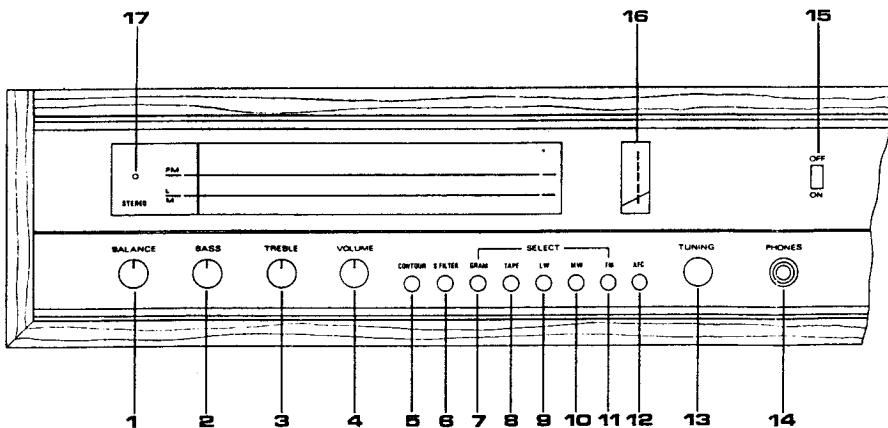

FIG. 4
The layout of the control panel is illustrated in Fig. 4, and the function of these controls is as follows:
- 1 Switch on by moving the ON-OFF switch to the 'ON' position and the dial scale will be illuminated. For control reference turn to Fig. 4, page 4.
- 2 Radio reception Depress the appropriate button marked LW, MW or FM (9-11) for the waveband required, and turn the tuning control (13) until the dial cursor indicates the required stations wavelength or frequency and carefully adjust to give a maximum reading on the TUNING METER (16). When tuning VHF stations, especially stereo programmes, precise adjustment is necessary to avoid distortion of the signal. It will be found easier to tune stations on VHF if the AFC button is in the off position (ie OUT). When tuned correctly (ie maximum deflection of the tuning meter) the AFC may be brought into use to lock the tuning
- Re-recording from ext. tape recorder to int. tape recorder. Tape button 8 (Fig. 4) to be depressed.
The HFC38 mains on/off switch No. 15 (Fig. 4) must be 'on' before the recorder will operate.